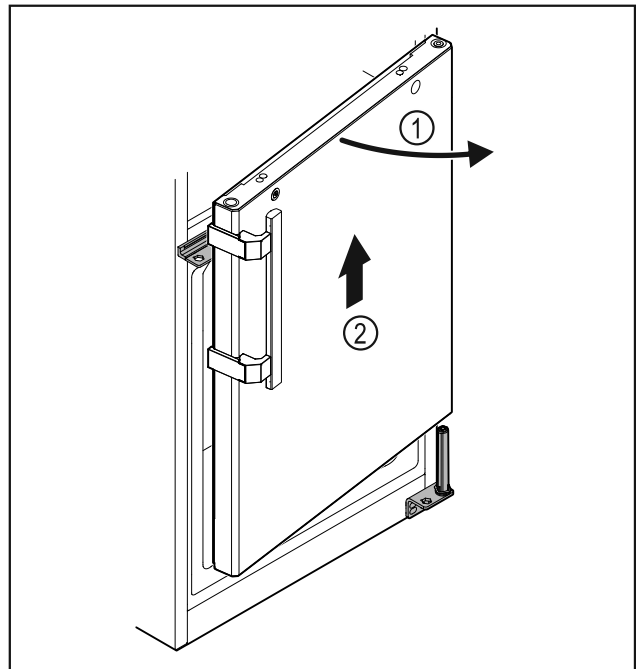

Fig. 25
- ▶ Open the door Fig. 25 (1) slightly, lift it straight up by around 200 mm (7.87 in) and take it off Fig. 25 (2).